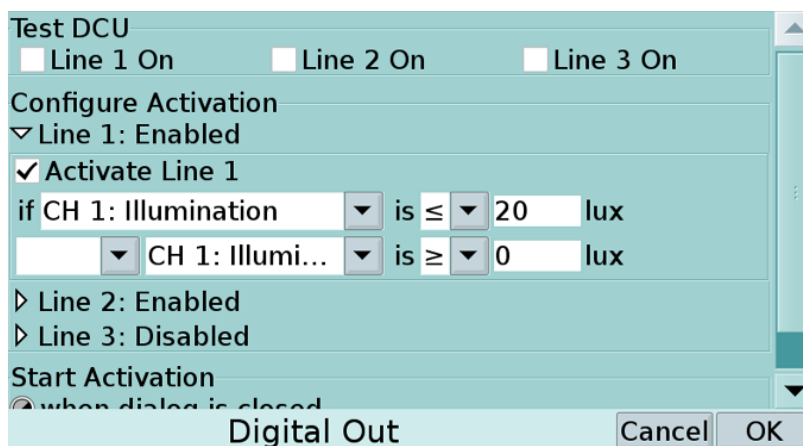

Figure 7
- Configure the output lines as shown in Figure 7.